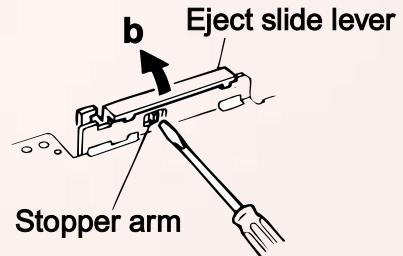

Fig.2
■ Eject slide lever (Fig.2)
1. Place the cassette mechanism back side forward and disengage the stopper arm b of the Eject slide lever by pressing it inwards through the opening of the chassis with a small screwdriver as shown in Fig.2.